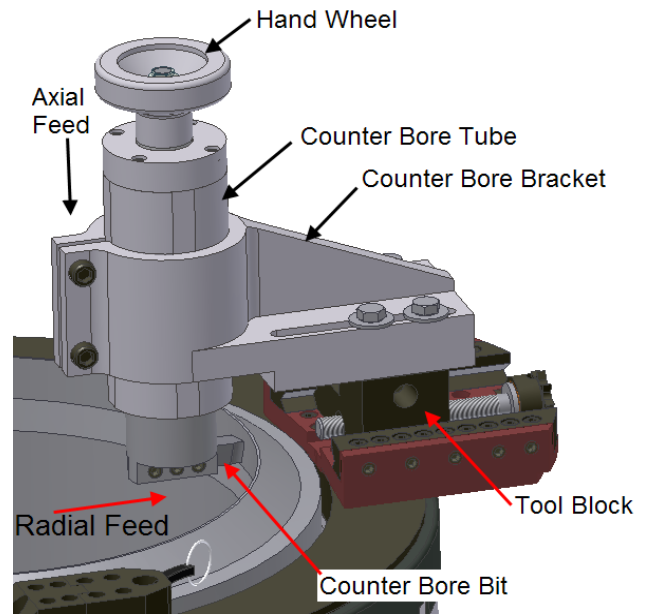

Figure 12
2. Insert the counter bore bit into the counter bore bar. The cutting side of the bit should face the set screws in the bar (see Fig. 12).